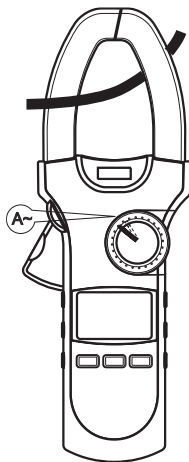

Figure 9
- When measuring DC current, if the reading is positive, then the current direction is from up to down (see figure 9: the front case face up while the bottom case face down)
G. AC Current Measurement (see figure 9)